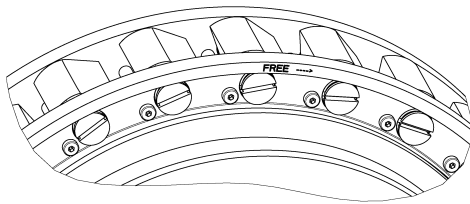

Figure 5: Clamp bodies “neutral position“
- Lift the inner race (2) including the cage (8) out of the outer race (1). Use appropriate lifting gear at the threaded hole of the inner race for this.
- Place the inner race (2) including the cage (8) facing downwards the label "FREE" on an assembly table.
- Secure (see Fig. 5 and 6) the clamp bodies in lift-off position (against the spring force) using an O-ring / cable connector as an assembly aid.
- Insert the inner race (2) with cage (8) into the outer race (1) until half of the clamp body is covered.